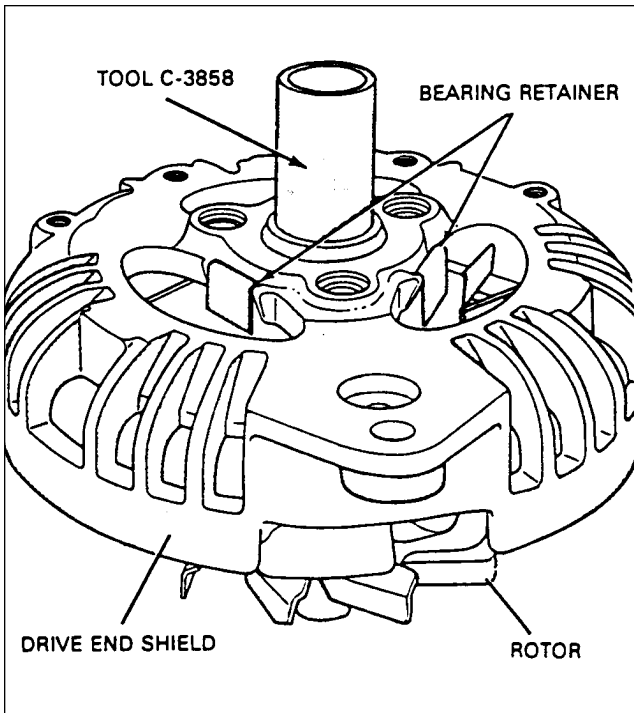

Figure 24-20. Installation of Drive End Shield Bearing
4. Position bearing and drive end shield on rotor shaft and while supporting base of rotor shaft, press bearing end shield into position on rotor shaft with an arbor press and tool C-3858. (Refer to figure 24-20.)